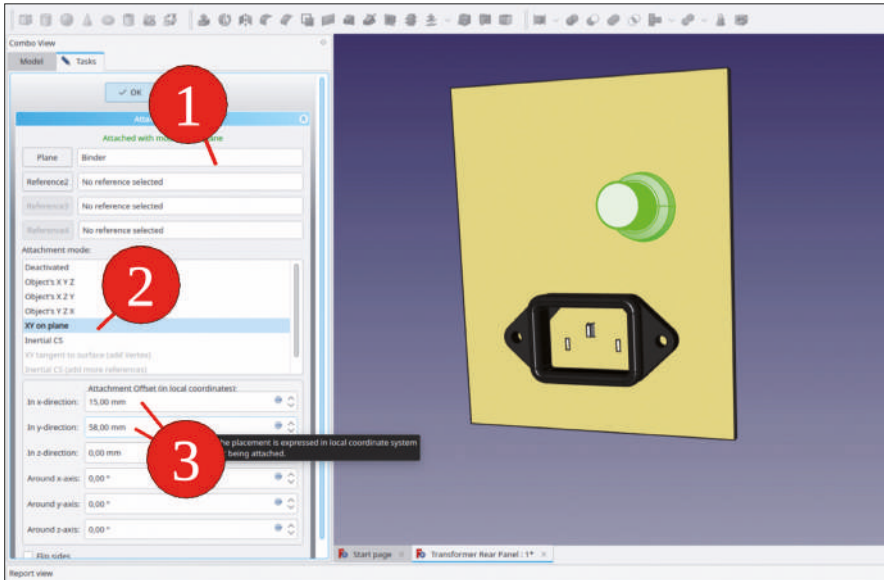

Figure 9-42
4. Rename the new container to 'Fuse Holder Complete 001'. Repeat the attachment procedure and attach the fuse holder to the SubShapeBinder 'Rear Panel Top Face'. Enter for the attachment offsets  $X = 15 \text{ mm}$  and  $Y = 58 \text{ mm}$  (Figure 9-42). Close the task window with the 'OK' button.